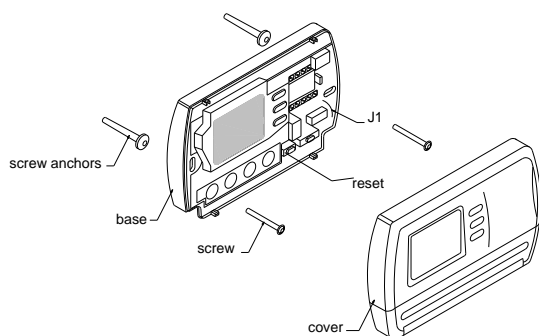

Figure 1
8. Fasten the base loosely to the wall as shown in Figure 1, using two mounting screws. Place a level against the bottom of the base and adjust until level, then tighten the screws. (Leveling is for appearance only, and will not affect thermostat operation.)
Read the following information before clipping the non-electric heat jumper 1 (See figure 1). If you are unsure of your application, contact a qualified service person.
Press the **PRGM** button to move to the next menu item, or press **TIME** to return to a previous menu item. Use the **▲** and **▼** buttons to select. To revert to factory default settings, press the **RESET** button (See Fig. 1). All user's changed settings will revert to factory default settings, including program settings. To exit the configuration menu and return to normal operation, press the **RUN** button. If no buttons are pressed within 30 seconds, the thermostat will exit the configuration menu. The configuration menu chart summarizes the configuration options. An explanation of each option follows.